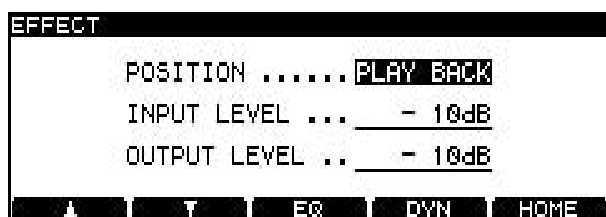

Figure 6.1: Effect setting screen
- 1 From the effect setting screen (see Figure 6.1, *Effect setting screen*), press the F3 (EQ) key.
- 1 From the effect setting screen (see Figure 6.1, *Effect setting screen*), press the F4 (DYN) key.